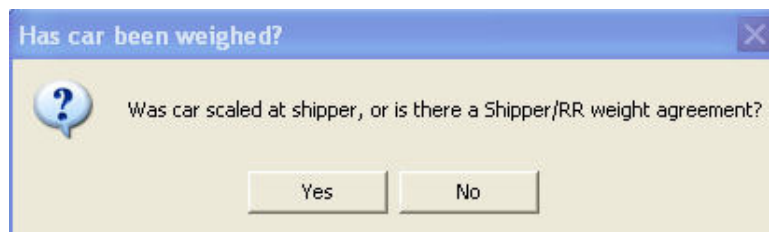

Figure 12-8
- d) Click on "Yes" and a window like Figure 12-8 will appear. If this shipment is from an off-line shipper (i.e. from staging) answer "Yes". If the shipment was from an on-line shipper and you have a weighscale, working or not, on your layout (which we do), click on the "No" button. This will cause the car to be sent to the weighscale for weighing before being sent onward. Since the shipper for waybill 32 is off-line and the shipment will have been weighed before it arrives at staging track CHI02s, we will click on "Yes"